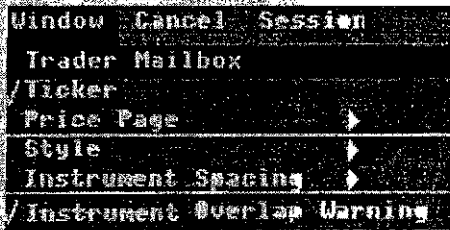

Figure 10.3 Window Drop-Down Menu
The Window drop-down menu is shown in Figure 10.3. Each of the menu choices is explained in the sections that follow in this user guide. All choices on this menu are not available in each display style. For example, instrument overlap warning is not available in freeform display style; Trader Mailbox is not available in fixed display style. The availability of various choices is detailed at the start of each section.
1. Choose Window in the menu bar. If the Trader Mailbox is currently displayed, it will be checked in the drop-down menu. If it is not currently displayed (as in Figure 10.3), it will not be checked.
1. Choose **Window** in the menu bar. If the Ticker is currently displayed (as in Figure 10.3), it will be checked in the drop-down menu. If it is not currently displayed, it will not be checked.